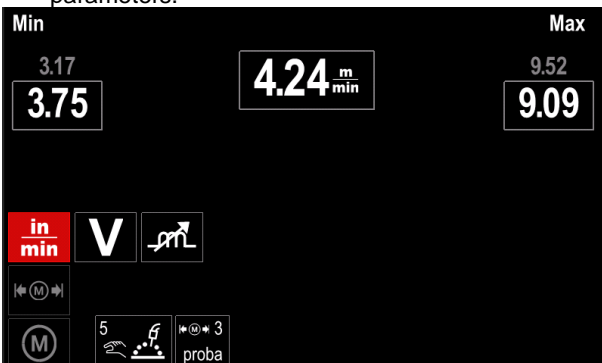

Figure 39.
- Figure 39 shows the effect of changing the values of parameters.